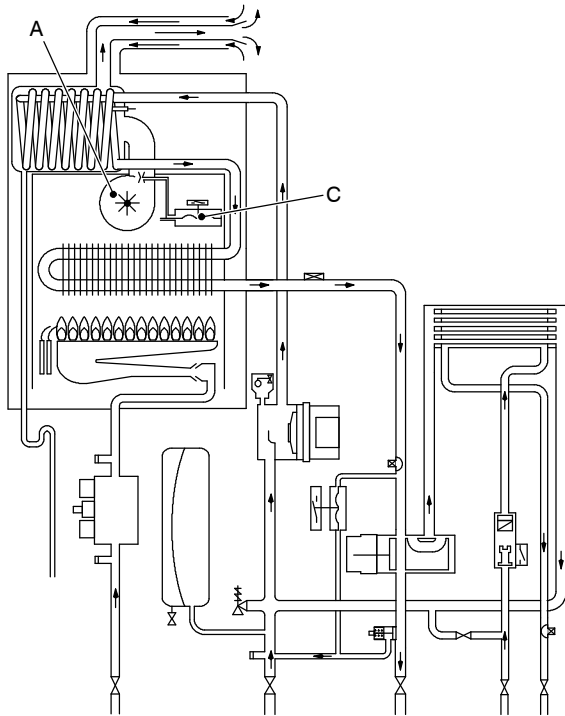
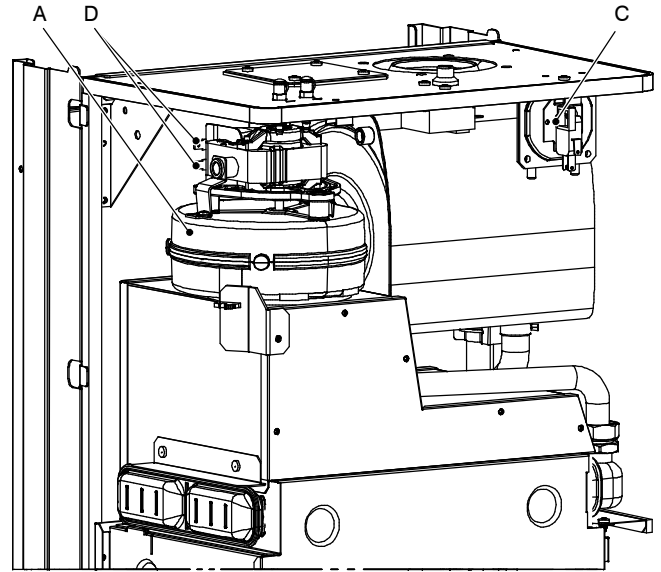
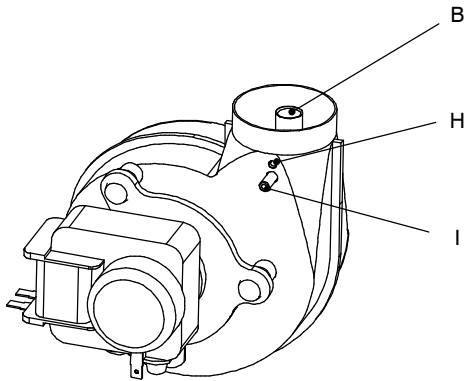

Fig. 68
Fig. 69
Fig. 74
The function of the Fan *A* (Fig. 68 and Fig. 69) is to force the products of combustion through the condensing heat exchanger to the outside air via the flue system.
Its correct functioning is controlled by means of a system incorporating a built in venturi device (*B* in Fig. 74) and an Air pressure switch *C* (Fig. 68 and Fig. 69).
- 2 Disconnect the connectors *D* (Fig. 69) and measure the electrical resistance of the motor that has to be about:
- 2 Disconnect the connectors *D* and the earth connection *E* (Fig. 69).